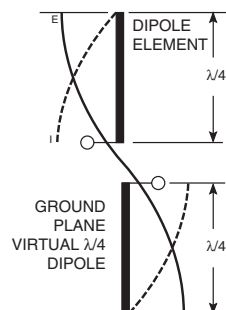

Figure 58: Dipole Antenna
4. In many antenna designs, particularly $\frac{1}{4}$ -wave whips, the ground plane acts as a counterpoise, forming, in essence, a $\frac{1}{2}$ -wave dipole (Figure 58). For this reason, adequate ground plane area is essential. The ground plane can be a metal case or ground-fill areas on a circuit board. Ideally, it should have a surface area less than or equal to the overall length of the $\frac{1}{4}$ -wave radiating element. This is often not practical due to size and configuration constraints. In these instances, a designer must make the best use of the area available to create as much ground